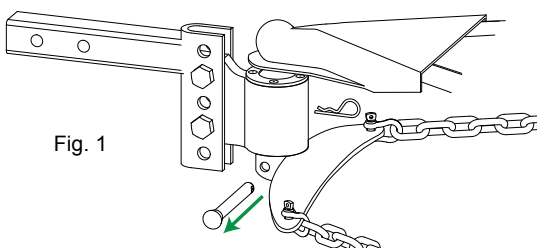

Fig. 1
4. Remove the pin and clip attached to the bottom of the ball and Sway Control Plate (fig. 1).